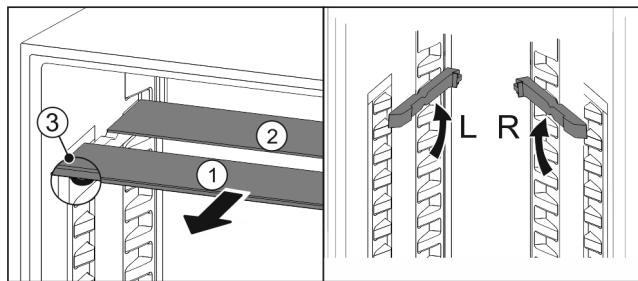

Fig. 130
- ▶ Pull the glass panels out *Fig. 130 (1)* from the front, one at a time.
- ▶ The glass panel *Fig. 130 (1)* and trim strip are at the front.
- ▶ The stops *Fig. 130 (3)* point down.